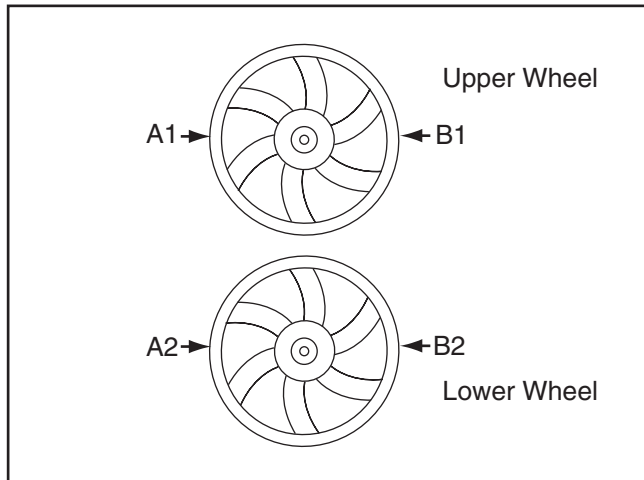

Figure 67. Example of marking upper and lower wheels for consistent measurements.
- Using a white crayon or other light color marker, mark the upper and lower wheels to indicate the measuring locations, as illustrated in **Figure 67**.
- Using a straightedge, check the wheels at the A and B locations (see **Figure 67**).